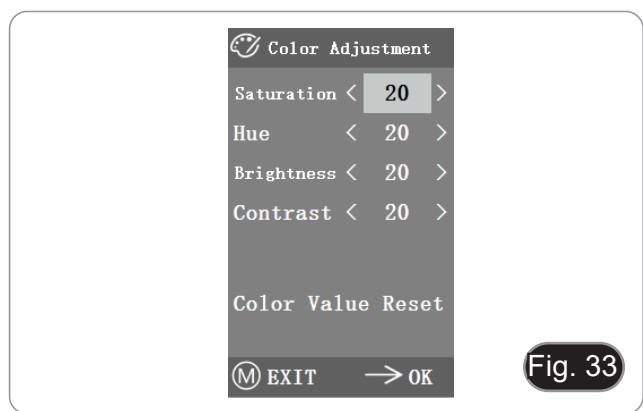

Fig. 33
- After entering the color adjustment menu (Fig. 33), Saturation, Hue, Brightness and Contrast can be adjusted to make the picture reach the required level.